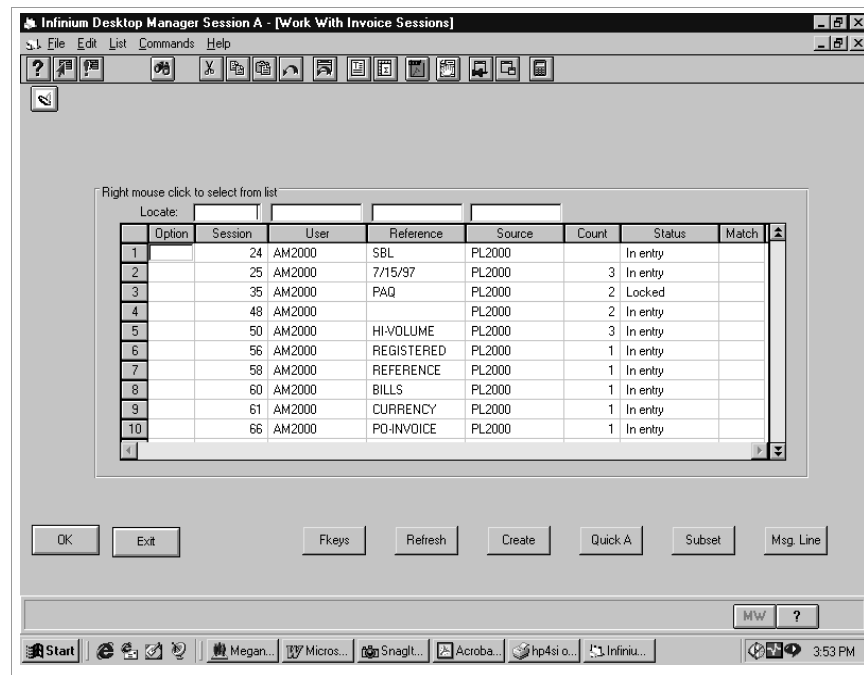

Figure 5-2: Work With Invoice Sessions screen
- 2 Select *Work with invoice entry* [WWI]. The system displays the screen shown in Figure 5-2.